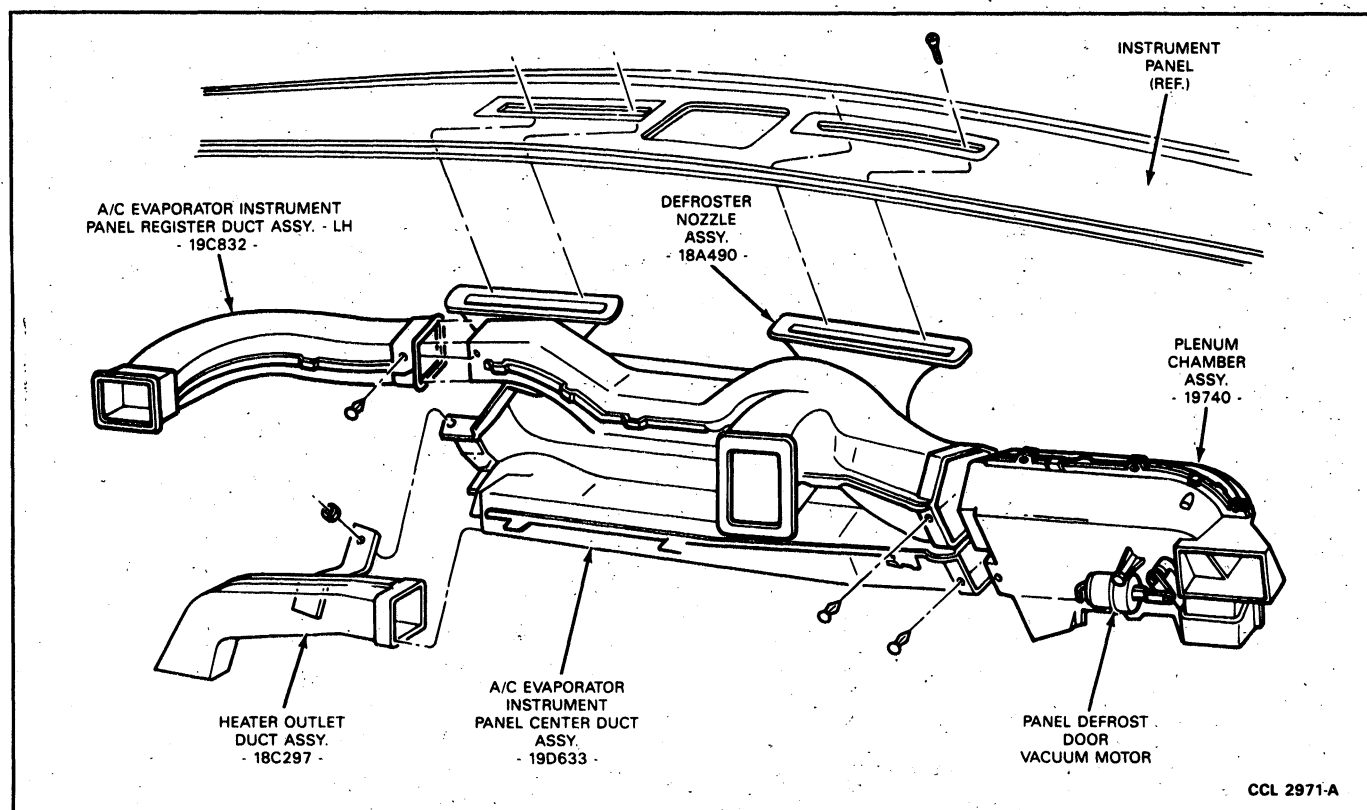

FIG. 10 Heater Duct and Defroster
1. Remove retainer attaching LH register duct to center register duct (Fig. 10).
5. Remove one nut retaining heater air outlet duct, LH heat duct and center register duct support braces to brake pedal support (Fig. 10).
3. Install retainer attaching center register duct to plenum (Fig. 10).
2. Remove one nut attaching LH heat duct, floor outlet duct and center register duct support braces to brake pedal support (Fig. 10).
5. Remove one retainer attaching heat duct to plenum (Fig. 10).
4. Install nut retaining three support braces to the clip bolt. (Fig. 10).
3. Install one retainer attaching center register duct and one retainer attaching heater air outlet duct to plenum. (Fig. 10).
Refer to Fig. 10.